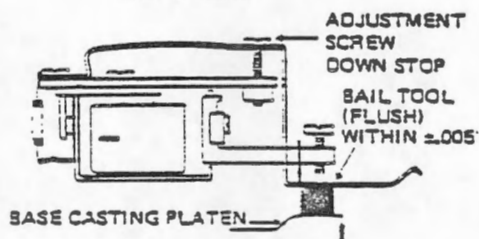

FIGURE 3 HEAD LOAD ACTUATOR DOWN STOP ADJUSTMENT
- d. Adjust down stop so that the top of Head Load Bail is flush with top of tool within  $\pm .005''$  at track 76. Reference Figure 3.